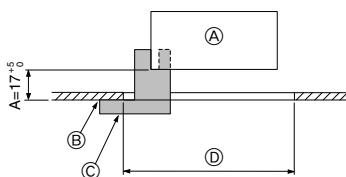
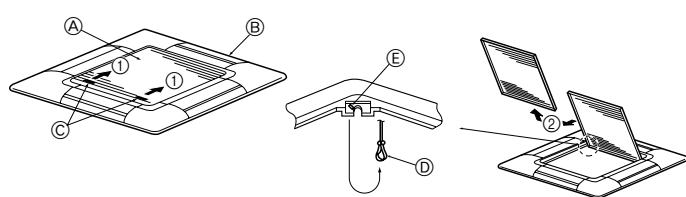

Fig. 5-2
Fig. 5-3
5.2. Preparing to attach the grille (Fig. 5-2)
- With the gauge ③ supplied with this kit, adjust and check the positioning of the unit relative to the ceiling. If the unit is not properly positioned relative to the ceiling, it may allow air leaks or cause condensation to collect.
① Main unit
② Ceiling
③ Gauge ③ (inserted into the unit)
④ Ceiling opening dimensions
5.2.1. Removing the intake grille (Fig. 5-3)
- Slide the levers in the direction indicated by the arrow ① to open the intake grille.
- With the intake grille in the "open" position, remove the hinge of the intake grille from the grille as indicated by the arrow ②.